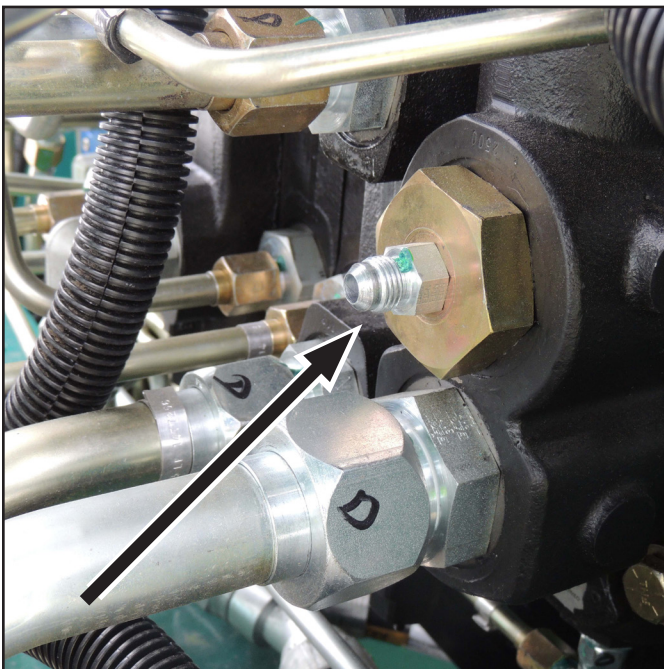

Figure 4: Remove the test port tube from the inlet port.
5. Use a 11/16" wrench to remove the test port tube from the inlet port (Figure 4). Discard the test port tube.